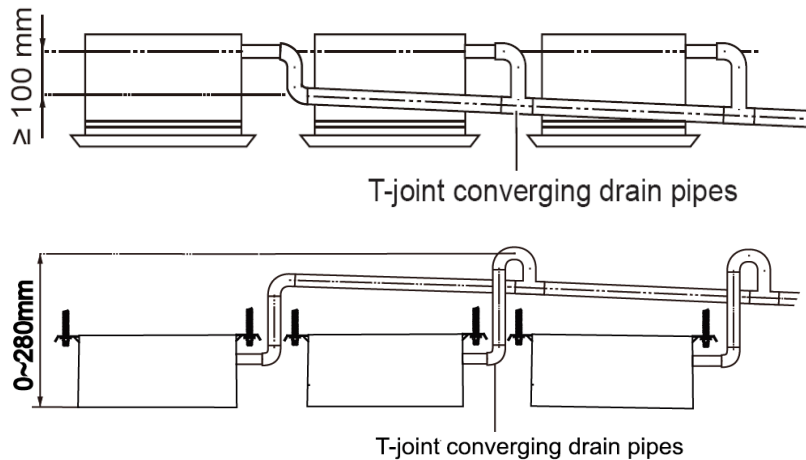

Figure 3-1-38
(3) When unifying multiple drain pipes, install the pipes as Figure 3-1-38. Select converging drain pipes whose gauge is suitable for the operating capacity of the unit. (take the cassette type unit for example)